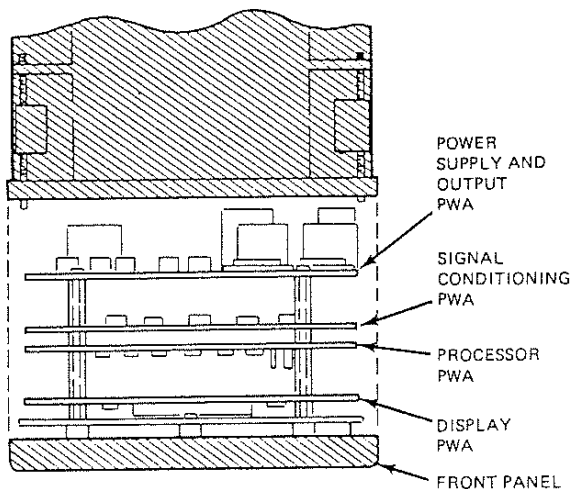

Figure 10. PWA Identification (Top View)
4. Refer to Figure 10 and locate the "display" PWA, immediately behind front panel.